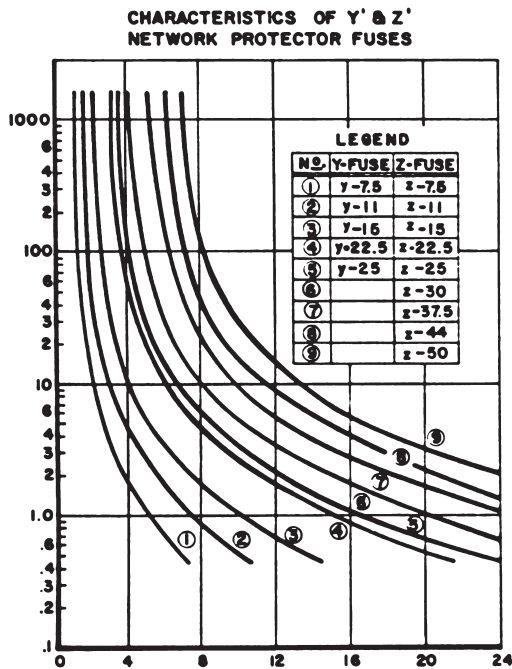

Figure 7: Amperes in Thousands
Type Y and Z Network Protector Fuses provide back-up protection in case the protector breaker fails to operate during a primary fault. The fuse time-current curves (Figure 7), are similar to those of the limiter, thus permitting correct fuse-limiter coordination for complete network protection.
3. Select a fuse with its time-current characteristics (Figure 7) lying between the limiter curves plotted in steps 2 and 3.